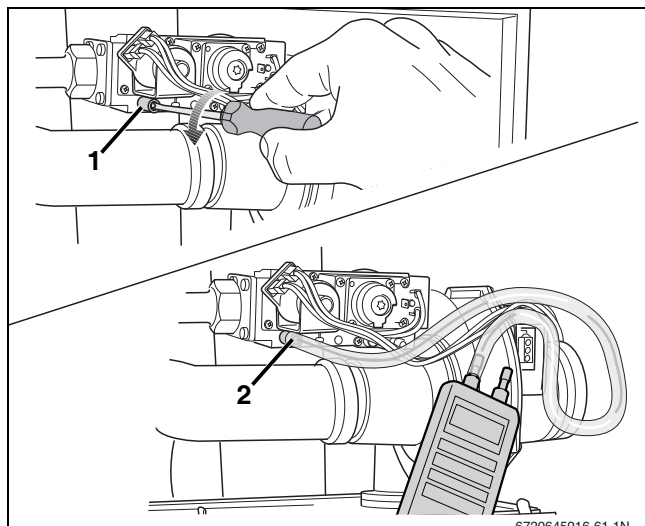

Fig. 65 Measuring the gas supply pressure
- Open the screw plug on the testing nipple for the gas inlet pressure by 2 turns (→ fig. 65, [1]).
- Connect the pressure gauge connection tube to the positive port of the testing nipple (→ fig. 65, [2]).